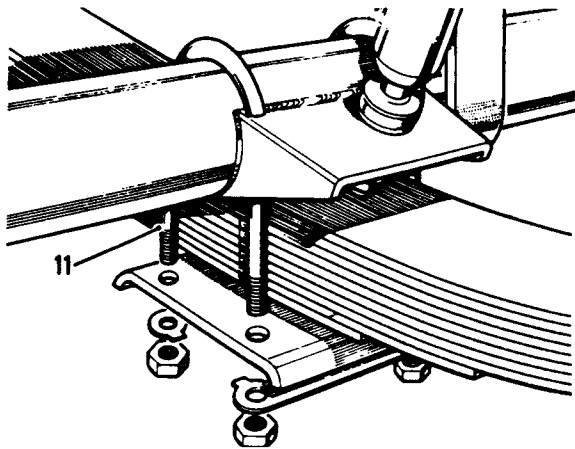

Fig J1.9
- (11) Refer to Fig J1.9. Remove the four U-bolts from the axle.